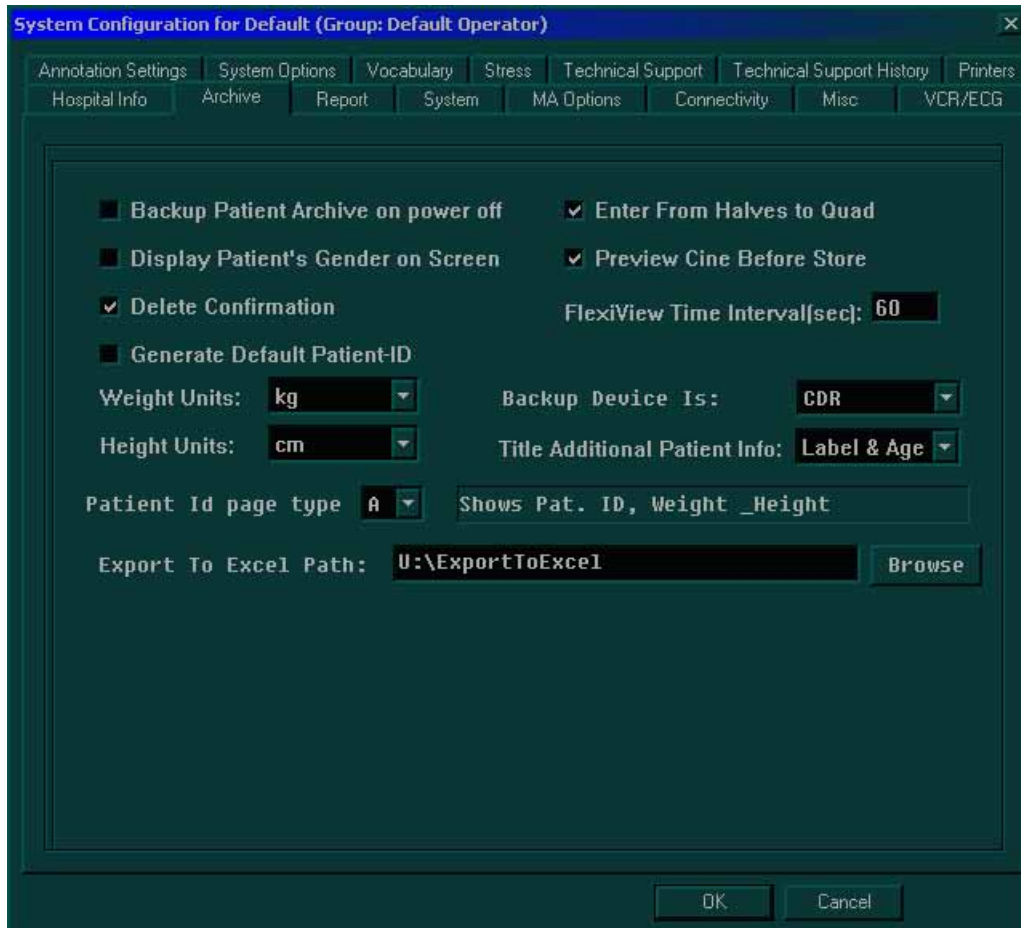

Figure 3-23 Archive Tab
- When the FlexiView option is installed the time period (in seconds) after which a cineloop is automatically stored in the archive without interrupting the user's monitoring must be set in the **FlexiView Time Interval[sec]** field. Figure 3-23 on page 3-37 indicates the recommended default factory setup.